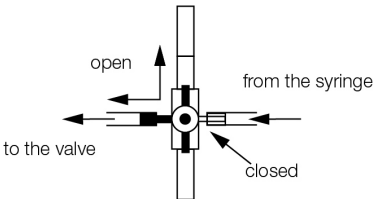

Fig. 10: Calibrating the test set-up (3)
- To isolate the syringe from the pressure gauge, rotate the three-way faucet with the silicone tube submerged in the water bath, see fig. 10.
- To isolate the syringe, maintain some flow through the shunt valve, while at the same time rotating the three-way faucet, see fig. 10. With the three-way faucet in the correct position, the water column in the pressure gauge should start dropping. The syringe is isolated from the valve now and it is not necessary anymore to maintain the flow from the syringe. If the water column fails to drop, repeat steps 2 to 6.